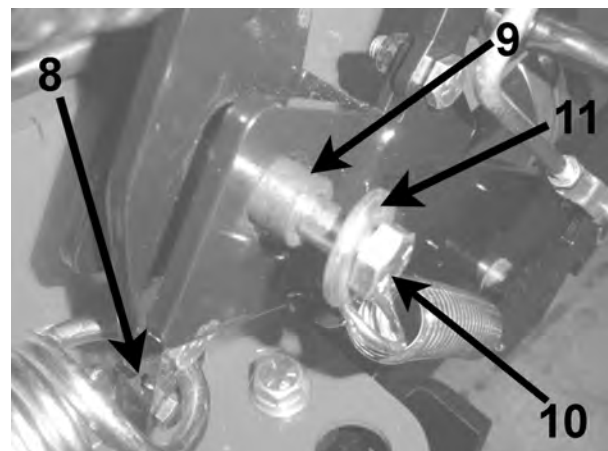

Figure 3
3. Install Spring Mount Assembly **8** to the front lift on the tractor by sliding the Spring Pivot Mounting Tube **9**, through the front lift and the spring mount assembly **(Figure 3)**. Secure in place with one bolt **10**, two washers **11** (one on each side), and one nut **19**. **(Figure 3 & 4)**